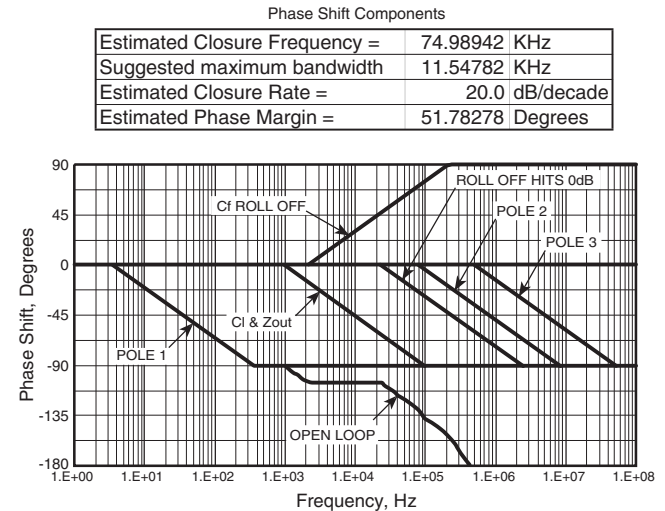

FIGURE 28.
STEP 1: Compensate PA241 for stability first: Refer to Figure 27 which shows how capacitive load modifies Aol. Figure 28 confirms that the selected 1/β plot will guarantee stability for the PA241.